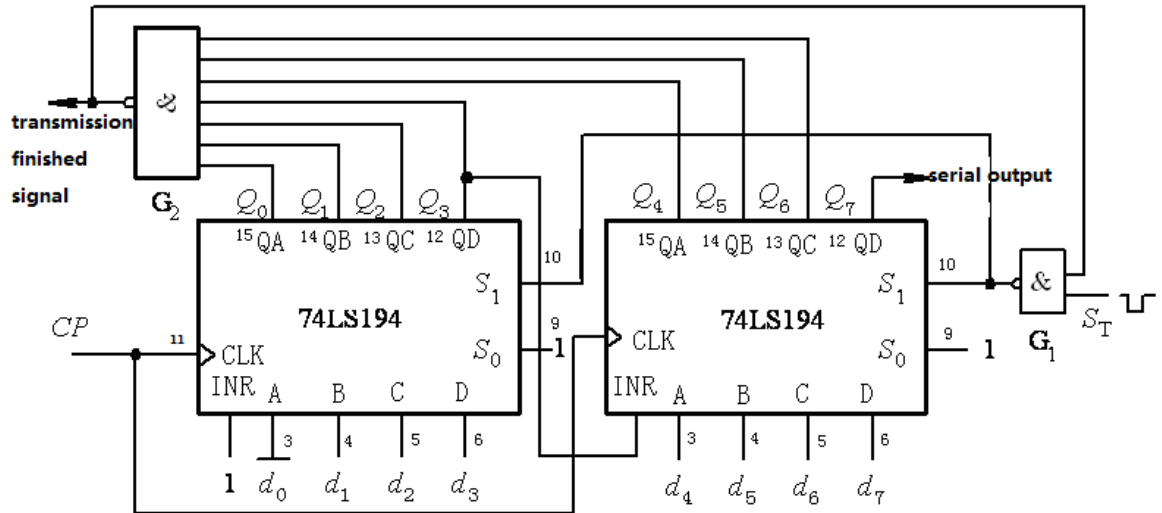

Figure 5-6 7-bit parallel in/serial out circuit diagram
- 2) Know logic function and applications of 74LS194. Make clear the work principle of figure 5.6 and figure 5.8. Draw timing logic diagrams, and study out steps.